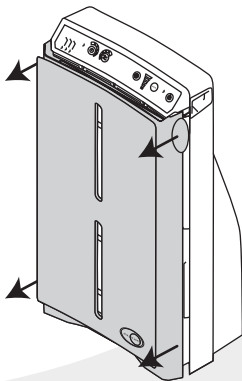

FIG. 2
1. To access the filters **remove** the front cover from the Air Purifier using the finger tabs located on each side of the Air Purifier—near the top (Fig. 2). **Steady** the Air Purifier by first placing your thumbs on the outside edges of the front display label. **Remove** the front cover by **gently pulling** on the tabs with your fingers. Then, **pull off** the bottom of the cover.